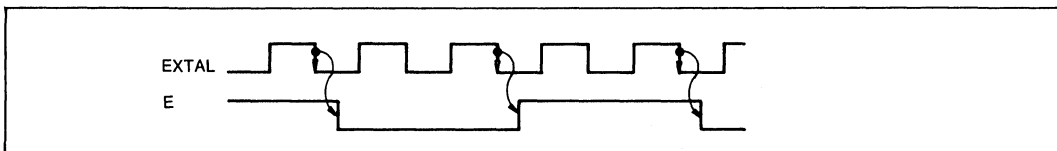

Figure III-15. E Clock Timing
**Answer:** It changes synchronously with the falling edge (figure III-15).